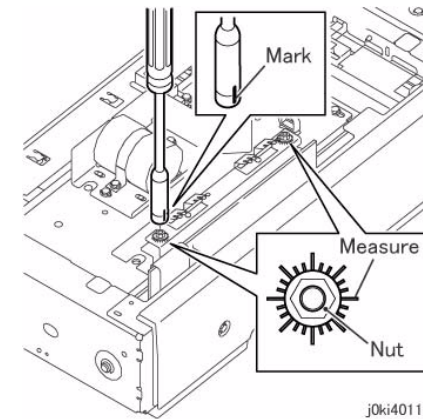

Figure 4 Rotate the nut
- Rotate the nut. (Figure 4)
NOTE: As it is difficult to control the rotation amount, it is recommended to draw a line on a strip of paper and tape it to the tip of the Box Driver to make a mark as shown in the figure below.(Figure 4)